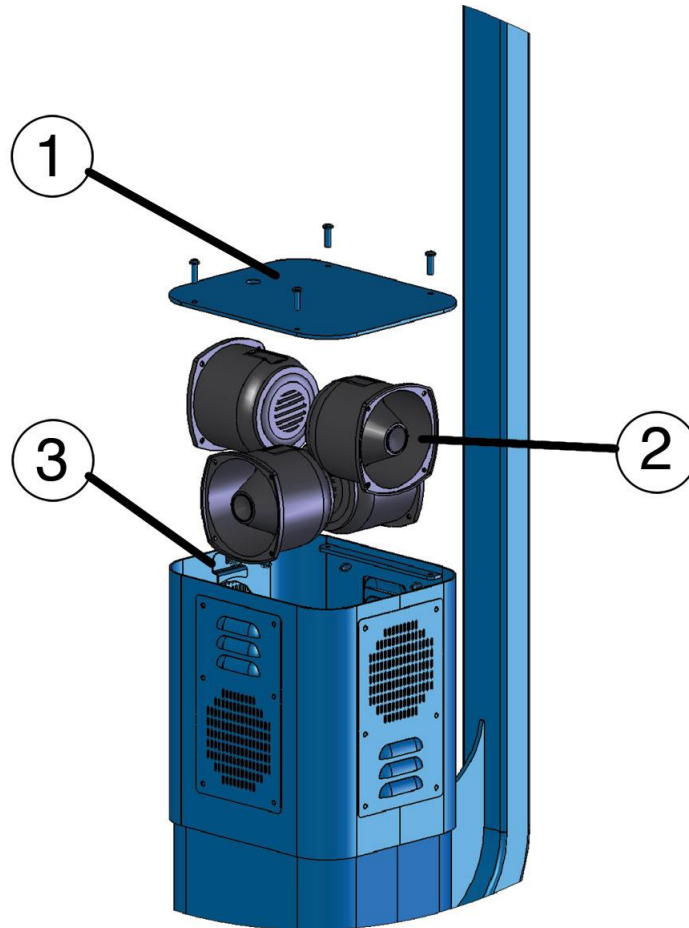

Figure 2. Installing the WEBS® Retrofit Tower Top: (1) Cap, (2) Loudspeaker, (3) Retainer Bracket.
(B) Installing the Retrofit Tower Top (figure 2)
- 2) Install the four WEBS® loudspeakers by locking each one of them down with the retainer bracket, starting with the bottommost speakers first (see Figure 2).